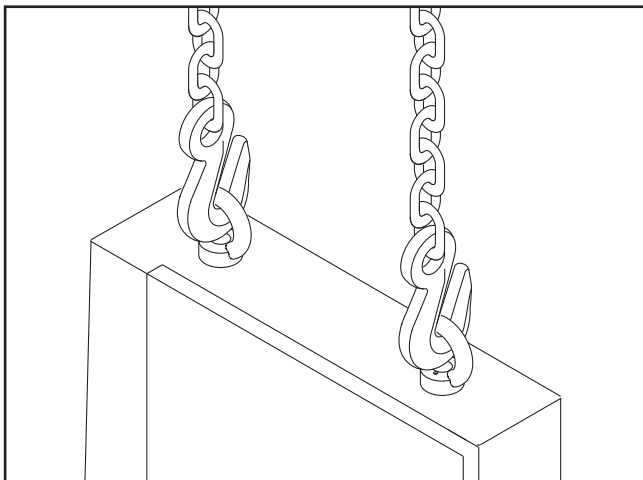

Figure 7. Lifting the bandsaw.
3. Install the eye bolts shown in **Figure 7**, making sure they are threaded all the way in, then place the lifting hooks through the eye bolts and lift slowly with a forklift.